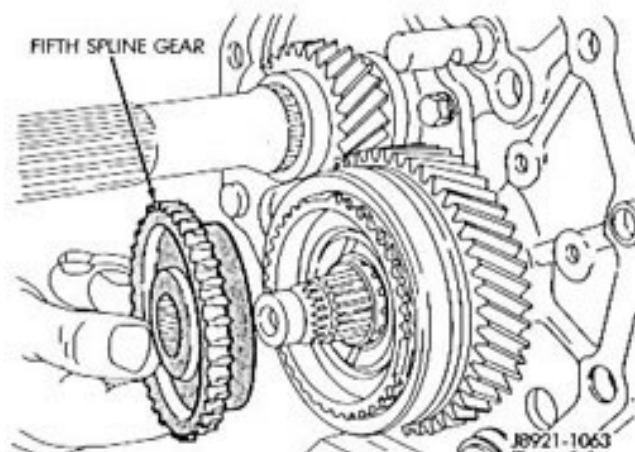

Fig. 33 Removing Fifth Spline Gear
(14) Remove the fifth spline gear (Fig. 33).